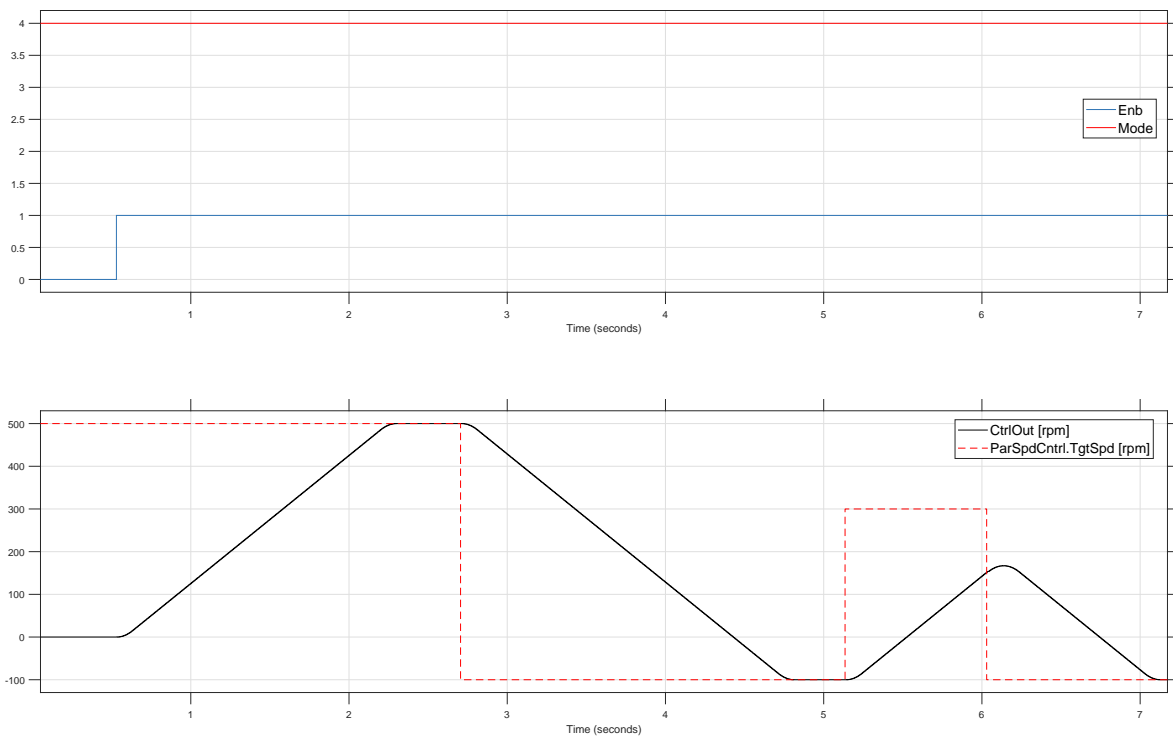

Figure 7: Movements speed control mode.
In Motor Speed Mode, the user can change the target speed at any time. Any change to the *TgtSpd* input is immediately recognized by the function and is implemented using the configured acceleration and jerk parameters. This allows for real-time adjustments to the motor speed, ensuring responsive and precise control in dynamic applications. See figure 7.
- *Mode* = 5: In this mode, the function block is configured to send rotational speed setpoints to the motor. The active parameter set is **ParSpdCtrl**. The user can send a specific speed setpoint with configurable acceleration and jerk to the motor. In this mode, the motor speed is controlled independently of the linear axis position. See figure 7.